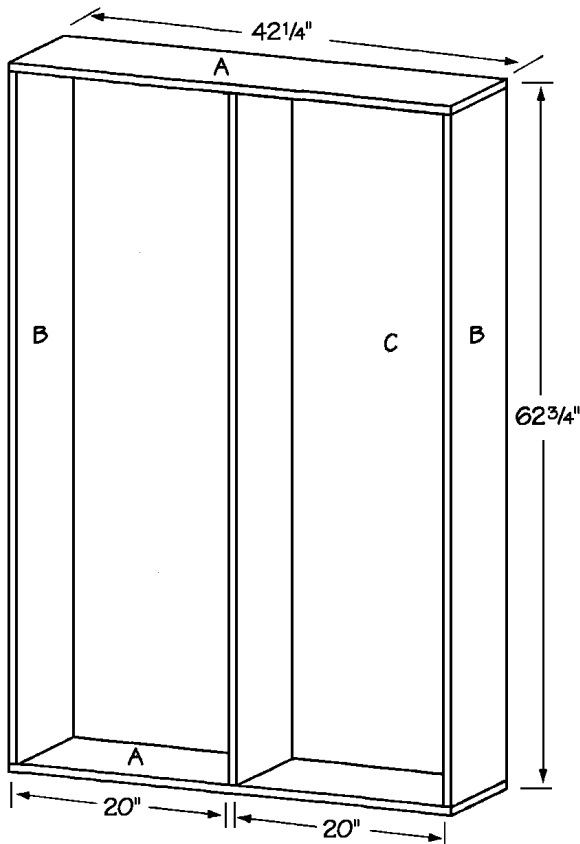
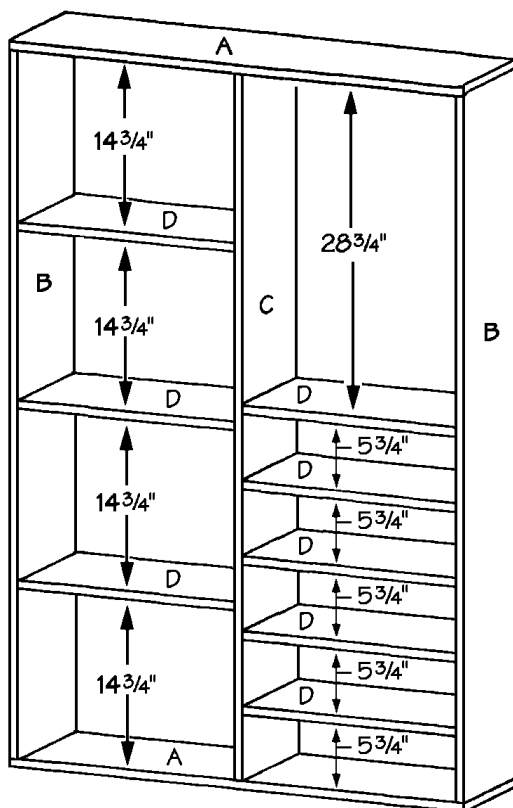

Figure 1
Figure 2
3. Place the two sides (B) on edge on a level surface, parallel to each other and 40-3/4 inches apart. Place the two top/bottoms (A) over the ends of the two sides (B), as shown in *Figure 1*. Screw through the top/bottoms (A) into the two sides (B) using four evenly spaced 1-1/2-inch screws on each joint.
4. Cut one center divider (C) from 1 x 12 pine, measuring 61-1/4 inches long.
5. Place the center divider (C) in the center of the armoire assembly, parallel to and 20 inches from each of the sides (B), as shown in *Figure 1*. Screw through the top/bottoms (A) into the center divider (C) using four evenly spaced 1-1/2-inch-long screws on each joint.
6. Cut eight shelves (D) from 1 x 12 pine, each measuring 20 inches long.
7. Refer to *Figure 2* to place five shelves (D) on the right side of the armoire case. Note that the upper shelf (D) is 28-3/4 inches below the top/bottom (A), and that the remaining four shelves (D) are spaced 5-3/4 inches apart. Screw through the side (B) and center divider (C) into the five shelves (D). Use four evenly spaced 1-1/2-inch-long screws on each joint.
8. Refer to *Figure 2* to place the three remaining shelves (D) on the left side of the armoire case. Note that the upper shelf (D) is 14-3/4 inches below the top/bottom (A), and that the remaining two shelves are spaced 14-3/4 inches apart. Apply glue on the meeting surfaces, and screw through the side (B) and center divider (C) into the three shelves (D). Use four evenly spaced 1-1/2" screws on each joint.